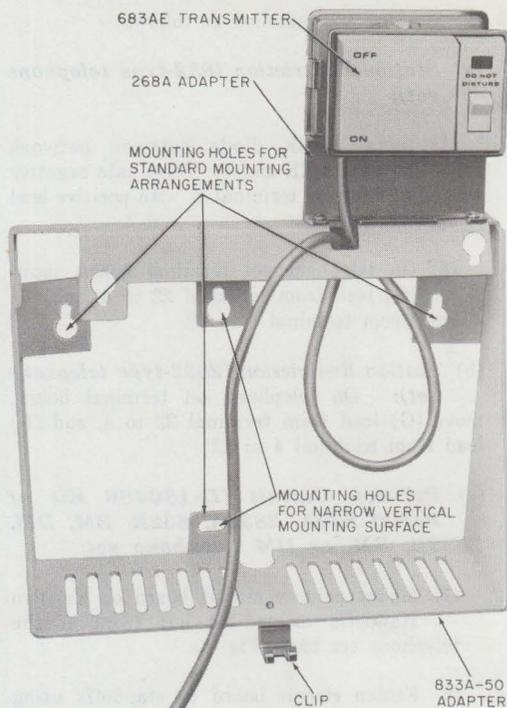
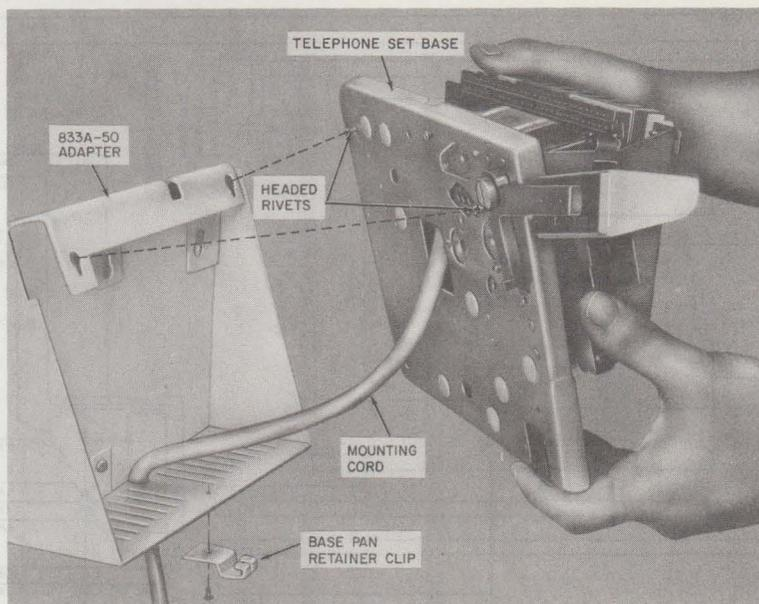

Fig. 4—833A-50 Adapter With 268A Adapter and 683A Transmitter
Fig. 5—Mounting Telephone Set Base onto 833A-50 Adapter
3.02 All DM and EM (wall type) sets are shipped with an 833A-50 adapter, screw, and clip (Fig. 4) which are used for mounting the telephone set to a vertical surface. Install the 833A-50 adapter and telephone set as follows.
- (1) Mount the adapter to the wall or vertical surface as shown in Fig. 4, using appropriate fasteners (Section 080-720-105). If the mounting cord is to be dressed down the wall, it is necessary to pass the cord through the notch in the adapter before final attachment of the adapter to the wall (Fig. 5). If the cabling enters through the wall, the mounting cord may be contained within the adapter.
- (2) Remove faceplate and housing from telephone set.
- (3) Hang the telephone set on the adapter from the headed rivets that protrude from the base pan (Fig. 5).
- (4) Secure the telephone set base with the clip and screws at the bottom of the adapter (Fig. 4).
- (5) Install the telephone set options (see paragraph 3.04).
- (6) Replace housing and faceplate.